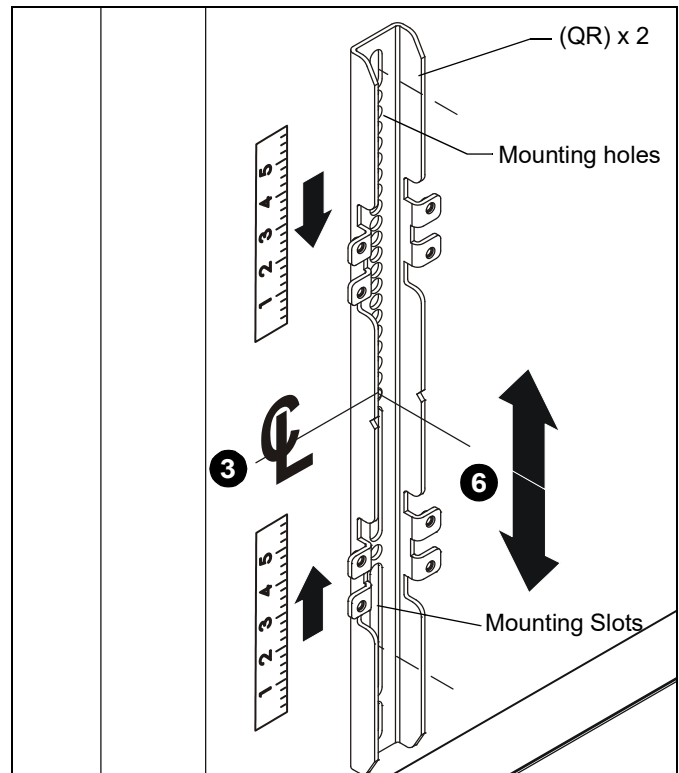
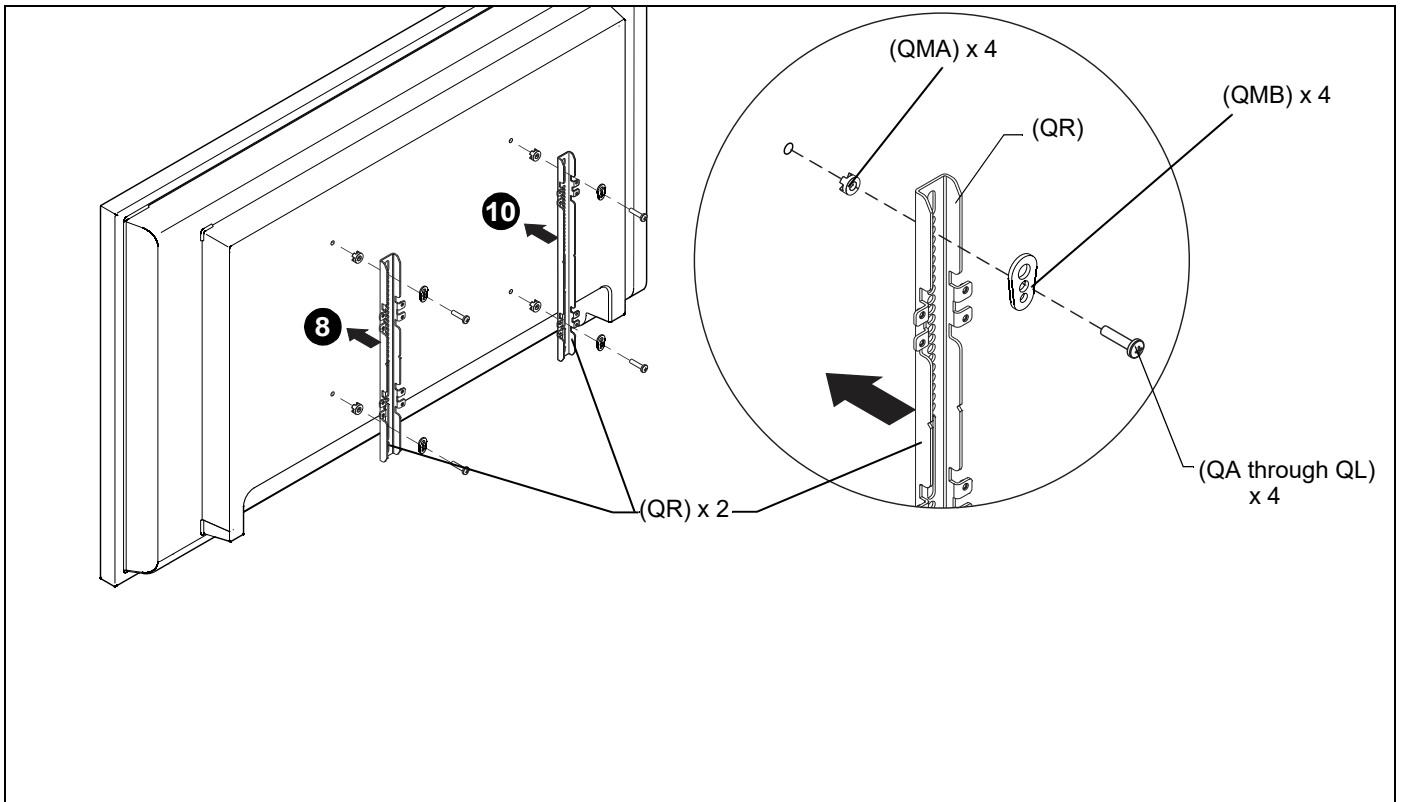

Figure 8
Figure 10
- Determine and mark the vertical center position between the Left side Upper and Lower mounting holes in display. (See Figure 8)
- Determine and mark the vertical center position between the Right side Upper and Lower mounting holes in display. (See Figure 8)
- Orient vertical mounting bracket (QR) so that mounting holes are on top and mounting slots are on bottom. (See Figure 8)
- Align mounting holes in vertical mounting bracket (QR) with upper and lower mounting holes in display.
- Adjust vertical mounting bracket (QR) position until mark made in Step 1 aligns with center mark in vertical mounting bracket (QR).
8. Select correct screws, nesting spacers (if necessary) and universal washers (if required) from the hardware bag (QA-QM) and attach brackets to back of screen. (See Figure 10)
9. If the display has a recessed mounting surface, protrusions or a power box, a spacer and longer mounting hardware must be placed between the display and vertical mounting bracket (QR). (See Figure 10)